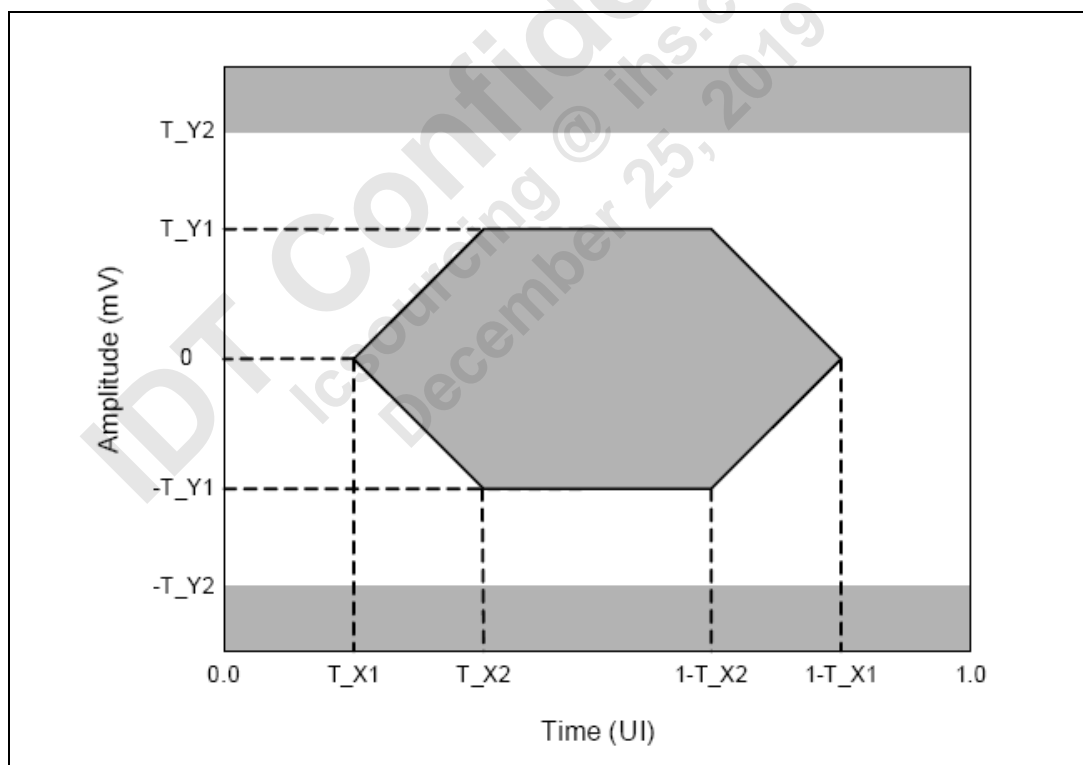

Figure 19 Transmit Eye Mask
6. Transmit Eye Mask is shown in Figure 19.